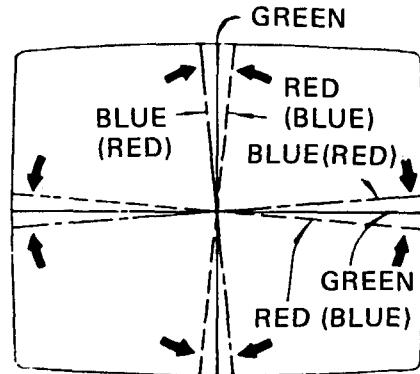

Figure 17
## 11. Dynamic Convergence (Figs. 17–19)
3. Tilt the deflection yoke up and down. Insert tilt adjustment wedges ① and ② between the deflection yoke and the CRT until the misconvergence illustrated in Figure 17 has been corrected.